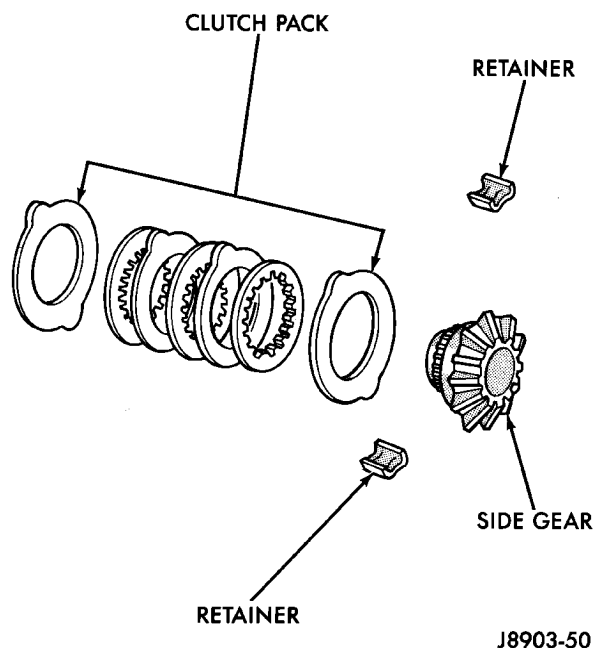
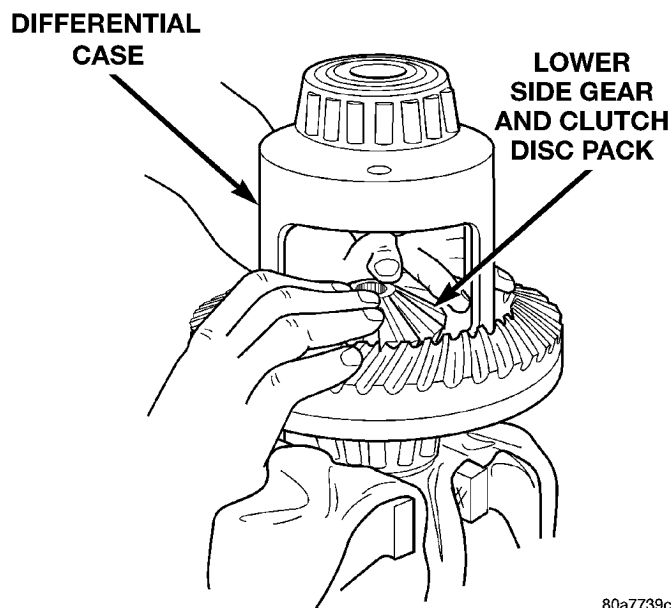
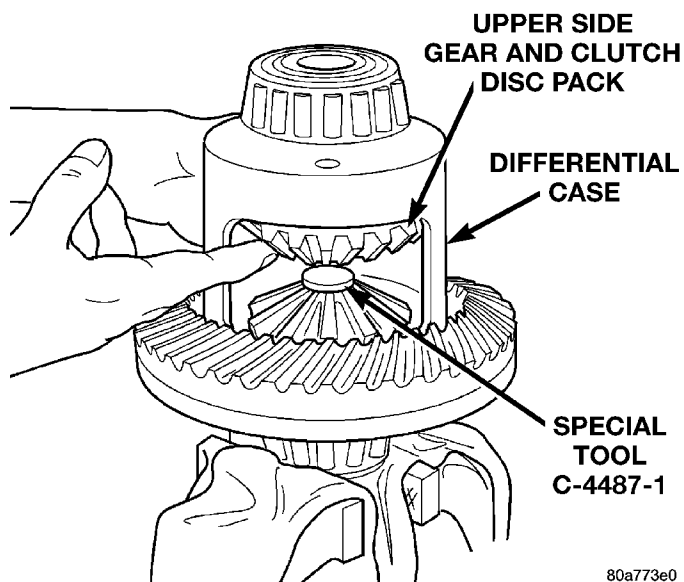

Fig. 64 Clutch Disc Pack
Fig. 65 Clutch Discs & Lower Side Gear Installation
Fig. 66 Upper Side Gear & Clutch Disc Pack Installation
(1) Assemble the clutch discs into packs and secure disc packs with retaining clips (Fig. 64).
(2) Position assembled clutch disc packs on the side gear hubs.
(3) Install clutch pack and side gear in the ring gear side of the differential case (Fig. 65). **Be sure clutch pack retaining clips remain in position and are seated in the case pockets.**
(4) Position the differential case on Side Gear Holding Tool 6963-A.
(5) Install lubricated Step Plate C-4487-1 on side gear (Fig. 66).
(6) Install the upper side gear and clutch disc pack (Fig. 66).
(7) Hold assembly in position. Insert Threaded Adapter C-4487-3 into top side gear.
(8) Insert Forcing Screw C-4487-2.